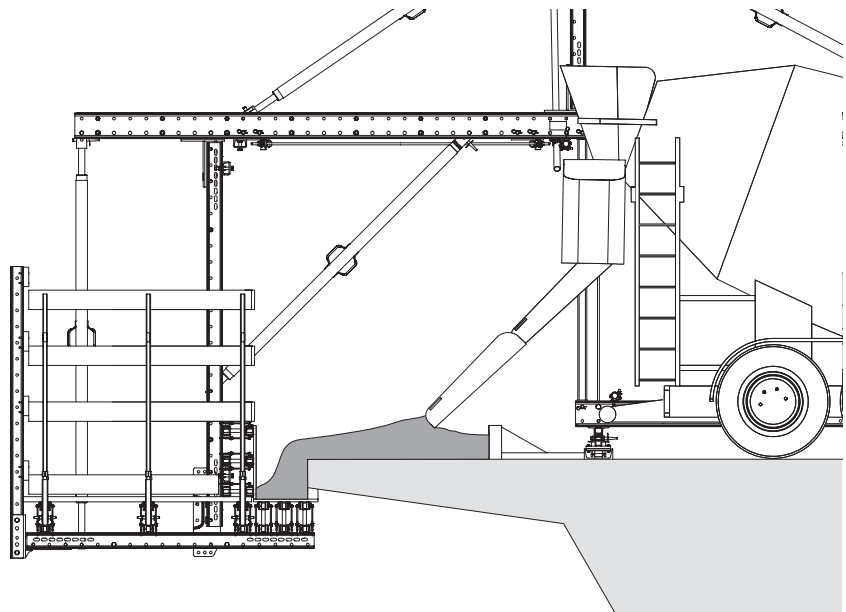

Fig. D2.02
- ⇒ Fill the formwork evenly, avoid any accumulation of concrete. (Fig. D2.02)
3. Compact the concrete. (Fig. D2.02)